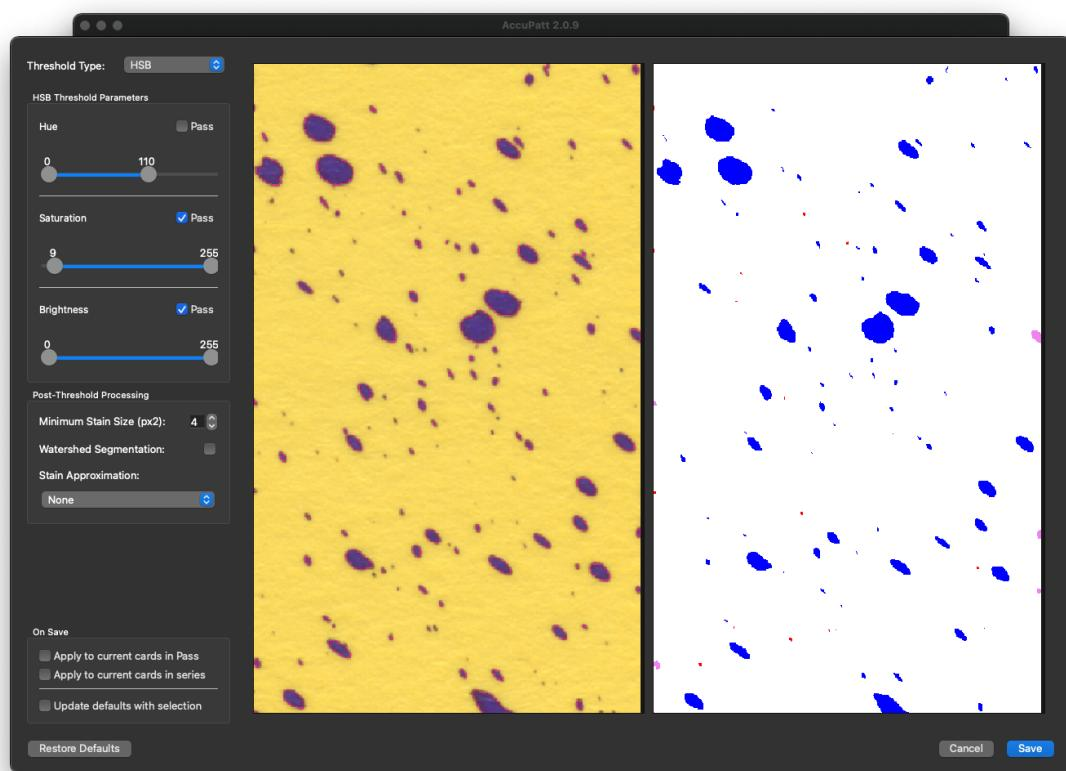

Figure 19: Spray-Card Analysis - Image Process Options - HSB
- **HSB:** Binarizes image by pixel filtering the color image by ranges of Hue (0-179), Saturation (0-255) and Brightness (0-255). Each range is independently applied as either a band-pass (checking the **Pass** checkbox) or band-reject filter. The resultant 3 binary masks are then combined with bitwise AND logic. (Figure 19)